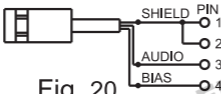

Fig. 20
2. 3-wire electret condenser microphone capsule connection, Fig. 20: